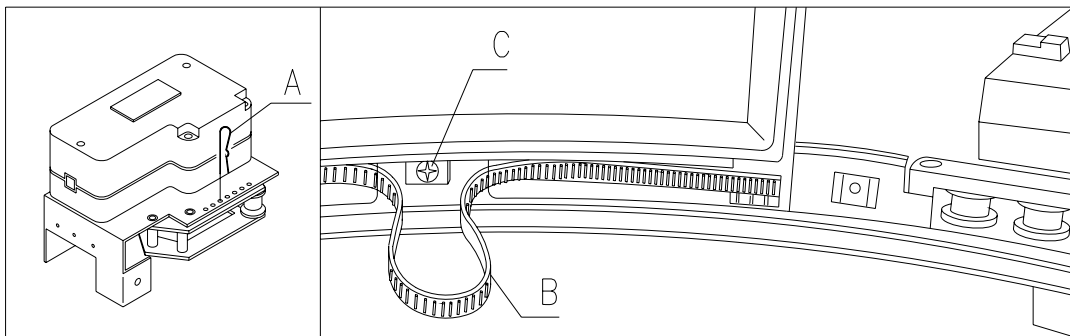
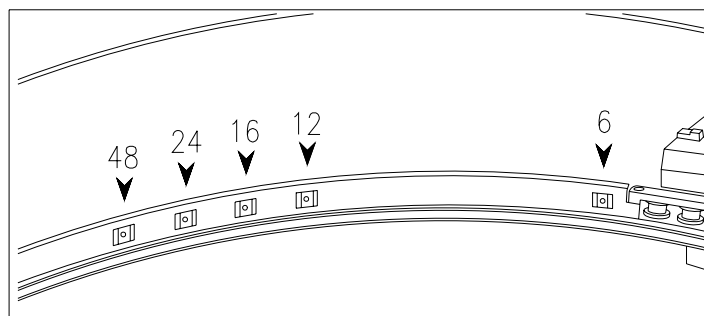

FIG. 12
FIG. 13
### 8.7 ADJUSTING OPENING OF THE DELIVERY DOORS FIG. 12 - FIG. 13
6. FIG. 13 illustrates the position of the stop in the various configurations: 6-12-16-24-48 compartments.